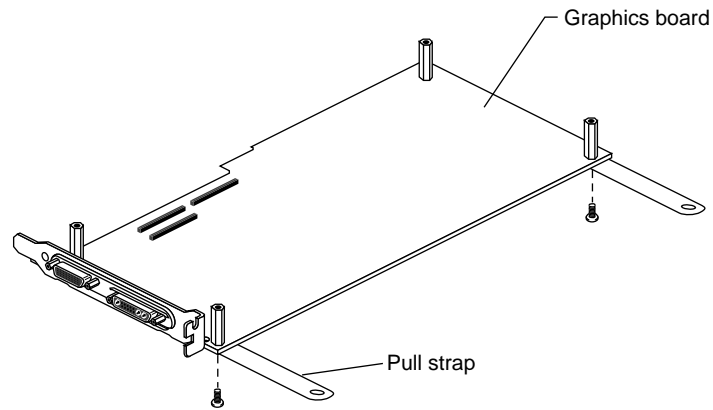

Figure 2-15 Attaching the Pull Straps
- Replace the screws. See Figure 2-15.